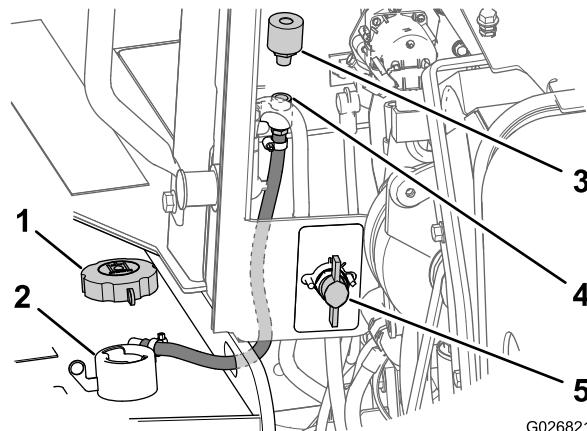

Figure 112
2. Rotate the battery disconnect to the Off position (Figure 112).
3. Remove the fill cap from the filler neck of the tank (Figure 112).
4. At the forward side of the engine compartment panel, remove the breather from the pipe coupling by rotating the breather counterclockwise (Figure 112).
5. Install a new breather into the pipe coupling hand tight (Figure 112).